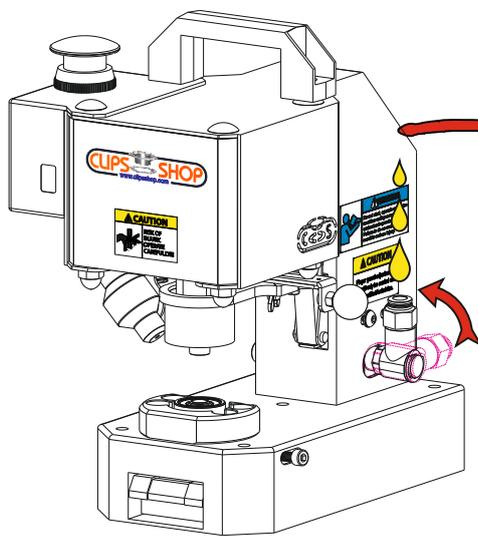

fig. 104
Manually grease the main shaft ①, finger guard mechanism shaft ② and rails ③ with a drip feed lubricator as shown in (fig.104).